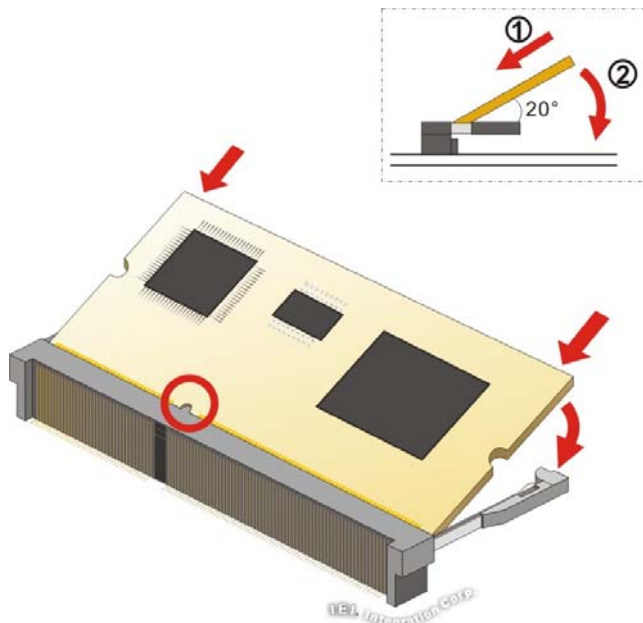

Figure 3-14: iRIS-2400 Module Installation
Step 4: Align the iRIS-2400 module with the iRIS-2400 module slot. Align the notch on the module with the notch on the iRIS-2400 module slot (**Figure 3-14**).
Step 5: Insert the iRIS-2400 module. Push the module in at a 20° angle (**Figure 3-14**).
Step 6: Seat the iRIS-2400 module. Gently push downwards and the arms clip into place (Figure 3-14).